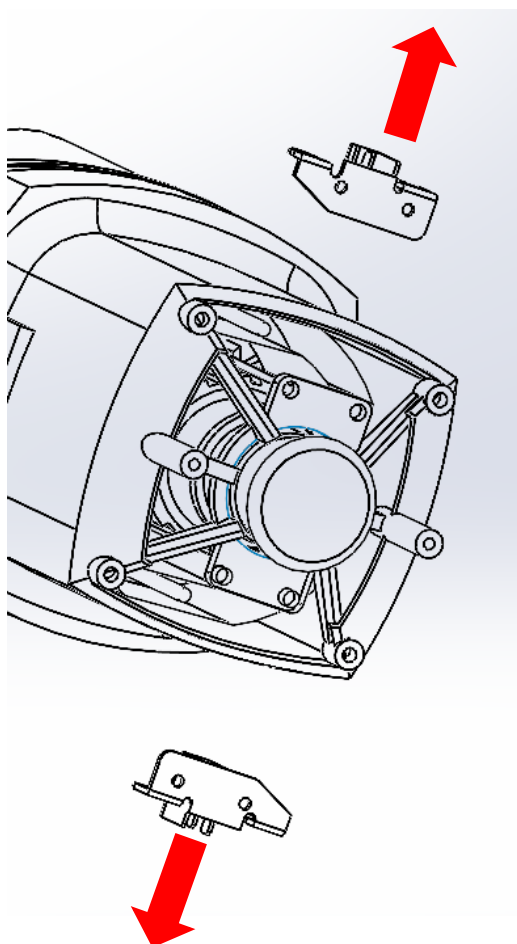

Figure 5.13
5.4.3 Proceed to remove the brush holders as in figure 5.13.